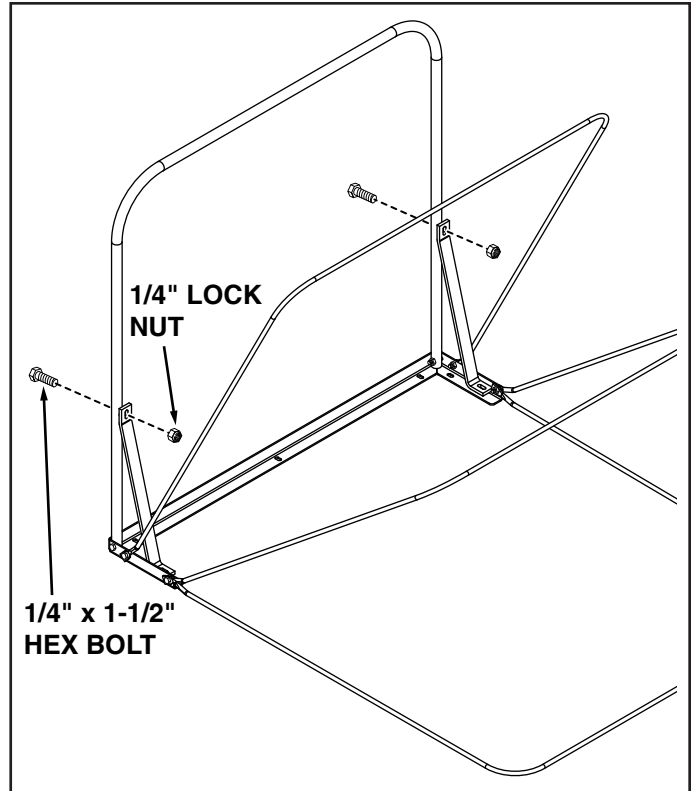

FIGURE 26
10. Attach the braces to the front support tube using two 1/4" x 1-1/4" hex bolts and 1/4" lock nuts. **DO NOT TIGHTEN YET.** See figure 26.